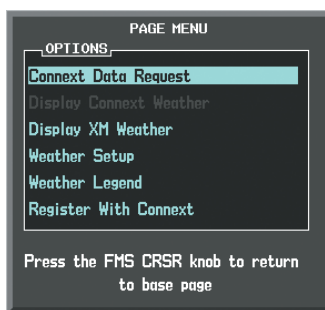

Figure 6-64 Weather Data Link (CNXT) Page Menu
- 3) With 'Connex Data Request' highlighted, press the **ENT** Key (Figure 6-64).